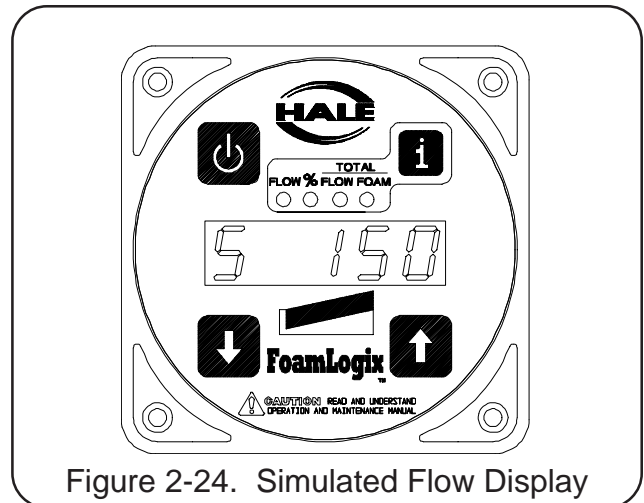

Figure 2-24. Simulated Flow Display
3. Place the system in simulated flow mode by selecting the **FLOW** display and depressing both up ↑ and down ↓ buttons simultaneously. Set simulated flow value to 100 GPM by pressing up ↑ or down ↓ button. Display will show "S" at the left most position to indicate the simulated flow (See figure 2-24).